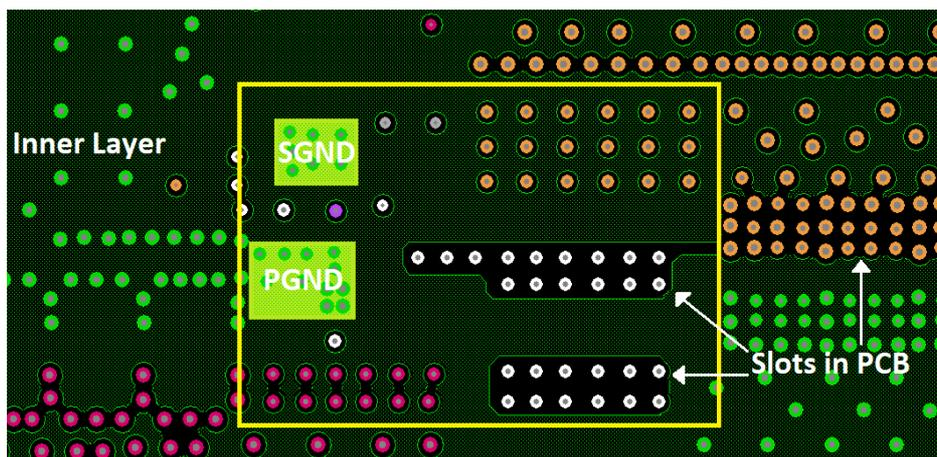

Figure 47. Layout Example - SGND is Connected to PGND Through Internal Layer
- Use full ground planes in the internal layers (underneath the module) with shared SGND and PGND to simplify the layout design. Renesas recommends using slots (as shown in Figure 47 on page 29) to ensure that the switching current avoids the SGND pad of the module. Use as much GND plane as possible for the layer directly above the bottom layer (containing components such as input caps and output caps). Use the top and bottom layer to route the EN, VCC, and PGOOD signals.